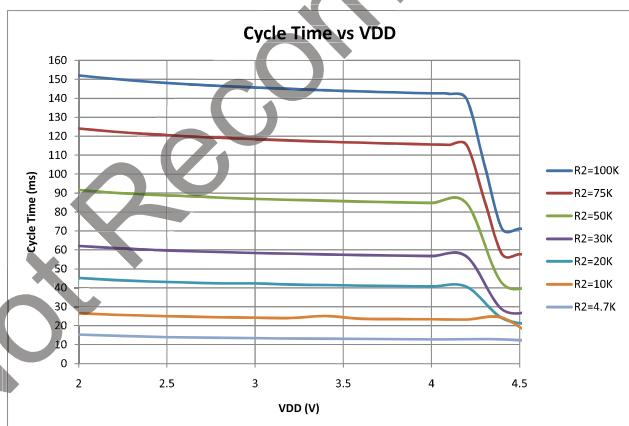

Figure 6. Cycle Period vs. V_{DD}
1. Max column also applies to $V_{DD} > 3.6$ V. See Figure 6.
- Updated Figure 1 and Figure 6.